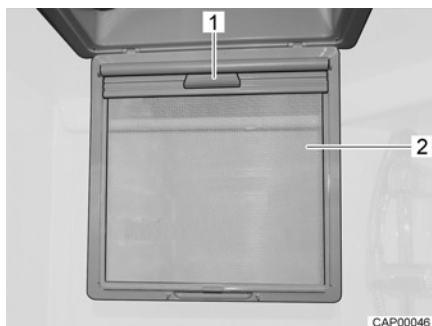

Fig. 34 Blind
- Fold insect screen (Fig. 34,2) downward.
- Pull blind down by the handle (Fig. 34,1) until it engages on the opposite side.
- Release blind at the handle (Fig. 34,1) and return it slowly to its initial position.
- Swing insect screen (Fig. 34,2) upwards until it latches in place.